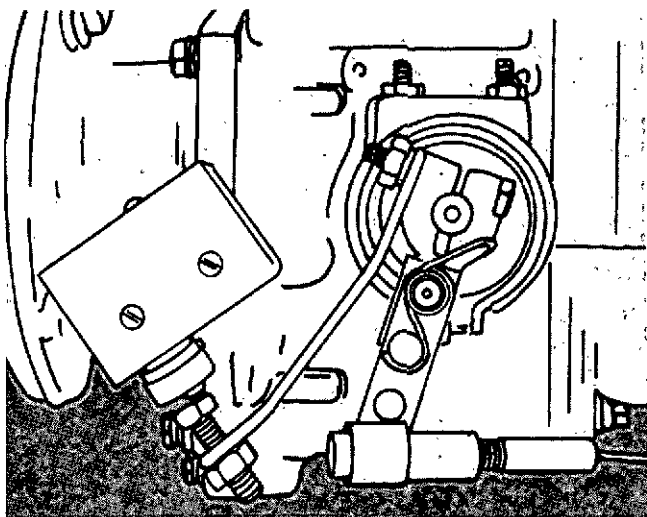

Fig. 20-13. The Fuel Pump Switch Installed Onto The Fuel Pump.
1. Install the fuel pump switch onto the fuel pump as shown in Fig. 20-13. Use two of the fuel pump housing capscrews to fasten the switch onto the fuel pump.